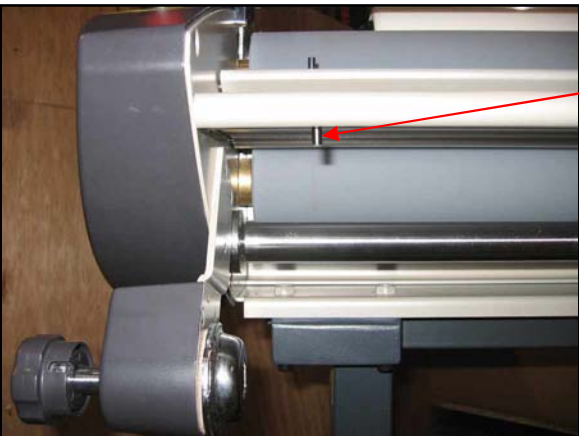

Fig. 5-4. Table Interlock Latch under the Table
A. Table Interlock Latch (Figure 5-4)